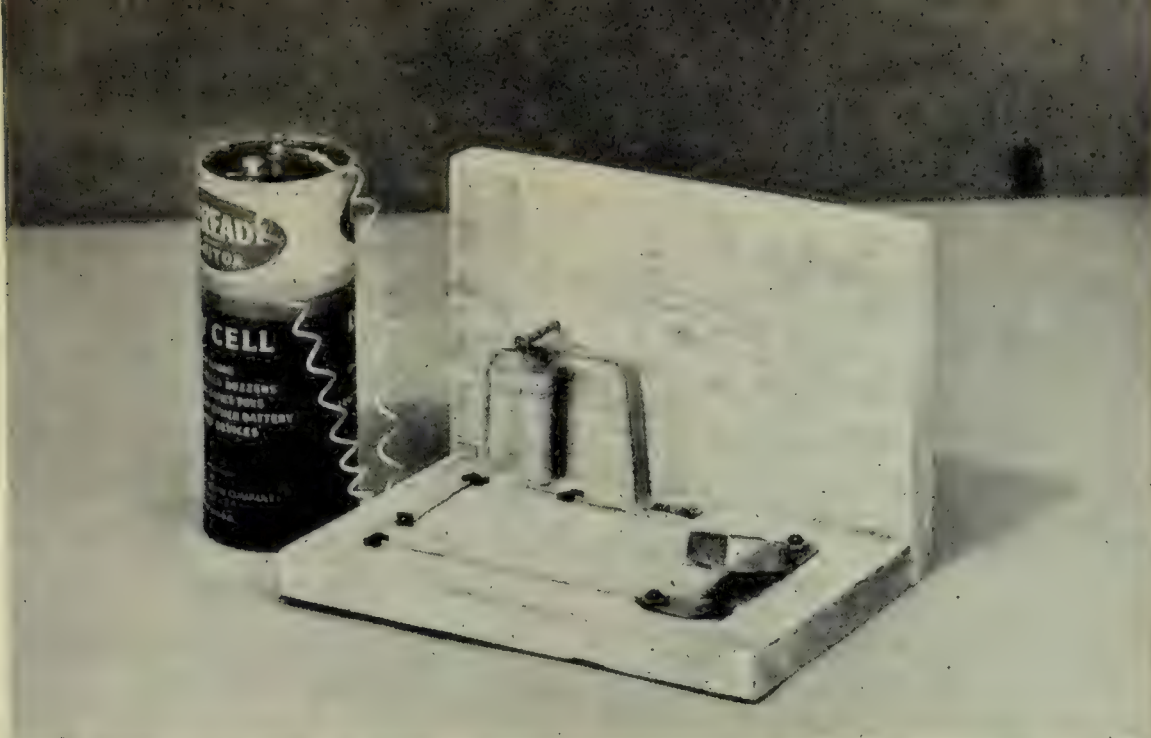

FIG. 438. A home-made telegraph. At the right is the key. The sounder clicks between the nail and the top of the electromagnet, which is a nail wound with wire.
c) If you do not have a commercial key and sounder, make an instrument as shown in Figure 438. Use about fifty turns of wire on the nail.